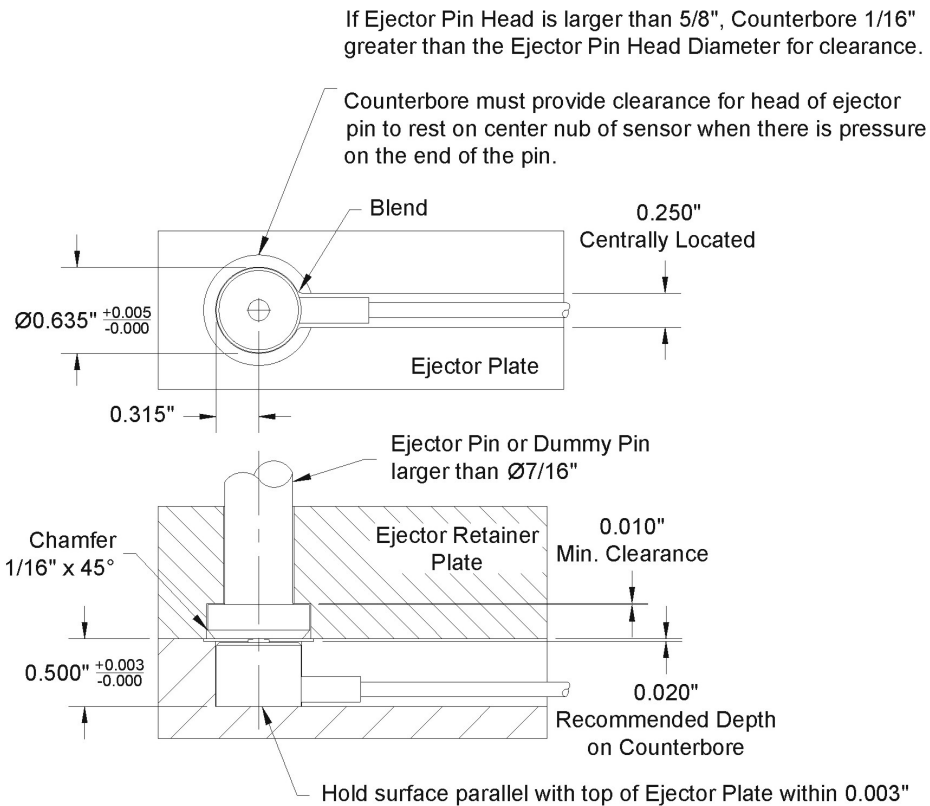

Figure 11: Recommended Mold Cutout for T-445 Sensor
- a. Machine a 0.250" wide by 0.500" deep slot in the ejector plate for the cable and a 0.635" diameter pocket for the sensor head. The pocket must be centered under the selected ejector pin (See Figure 11).
- b. Counterbore the retainer plate to relieve the head of the ejector pin by 0.010" to eliminate a potential pre-load on the sensor when installed (See Figure 11).
- c. Counterbore the ejector plate by 0.020" to allow the head of the pin to clear the plate and only rest on the sensor when under pressure (See Figure 11).
Figure 11 shows the recommended mold cutout for installation of the T-445.